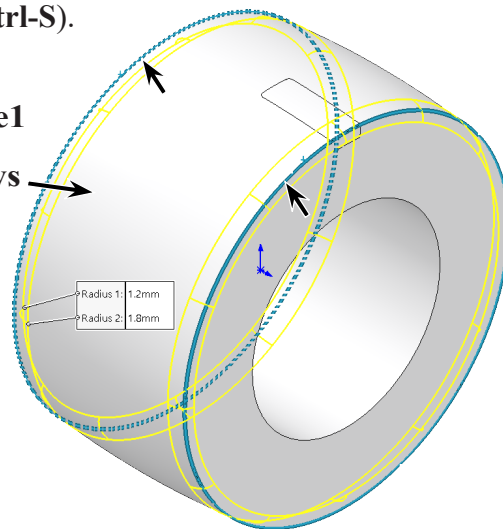

Fig. 26
Step 1. **Show Revolve1**  body, **Fig. 26**. To show, move cursor over the body in graphics area and press **Shift - Tab**.
click **both outside circular edges of Tire (2)**, **Fig. 26**